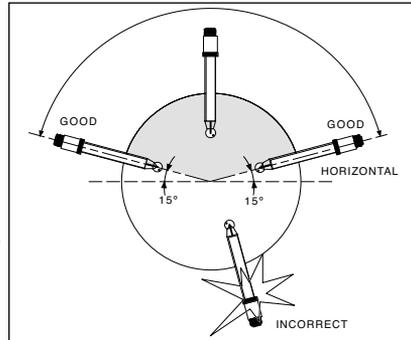

Fig. 3.1 Mounting position of sensors
- The mounting position of the sensors must be within the area as shown in figure 3.1.